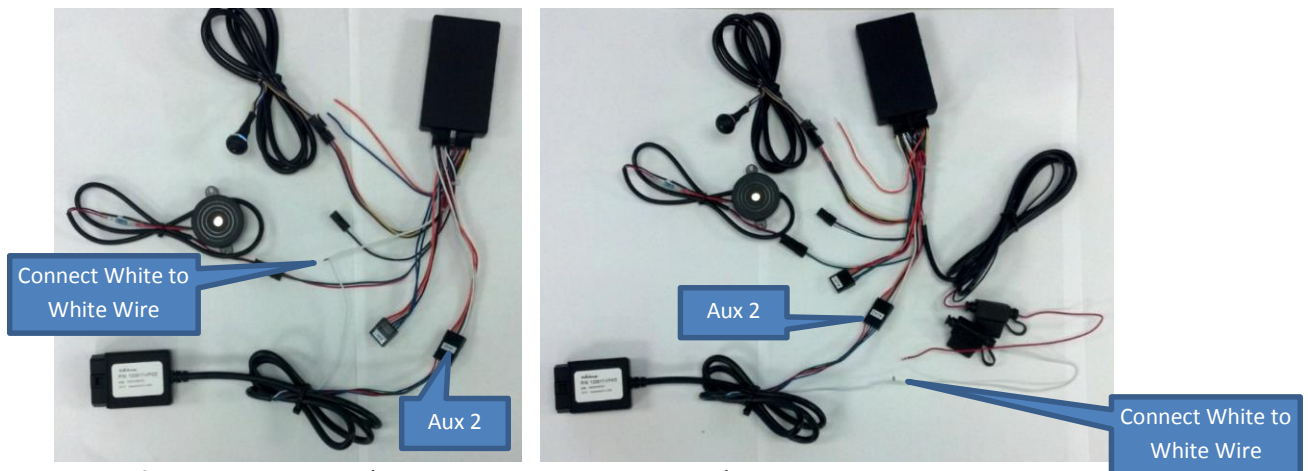

Figure 45: vPOD With Harness 5C261 or vPOD With Harness 5C260 or 5C908
- a. Connect the LMU-26xx White Ignition Wire of 5C260 or 5C261 to the vPOD Adapter's (133917-VPOD) White Ignition Wire using a Butt Splicer (**Figure 45**):